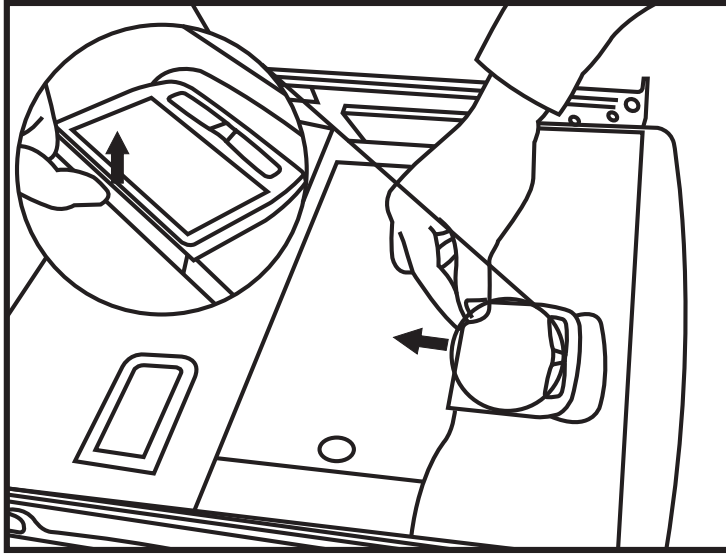

Figure 4-21. Releasing the latch on the touchpad.
1. To remove the touch pad, press the tab underneath it upward to release the latch. See Figure 4-21.